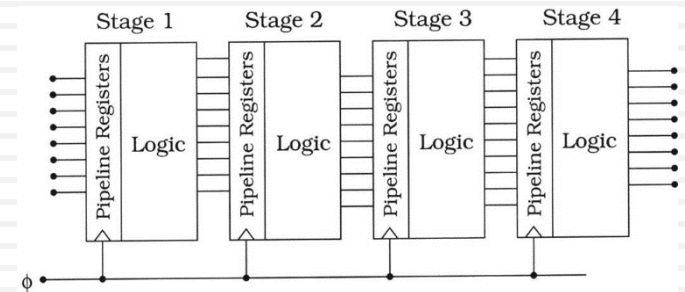

Figure 15.31 A 4-stage pipeline
- In Figure 15.31, dividing the long logic into small groups, add registers between the sections, and use a faster clock, then most of the circuits will be active at any given time